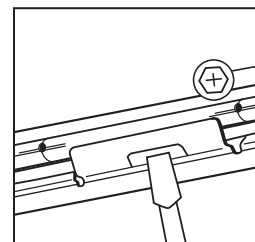

Figure 4
**Step 2.** Slide fixture along bar hangers into desired location. Use locking screws or slot to secure (Fig. 4).